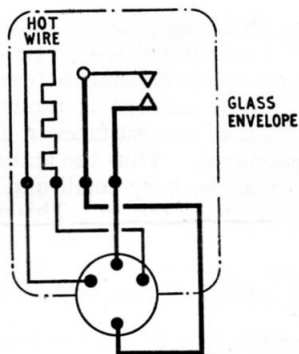

Fig. 3. Circuit diagram
7. The switch is fitted with a 4 pin, valve type base (fig. 3). If installed in a position where it is likely to suffer shock or vibration it should be resiliently mounted.